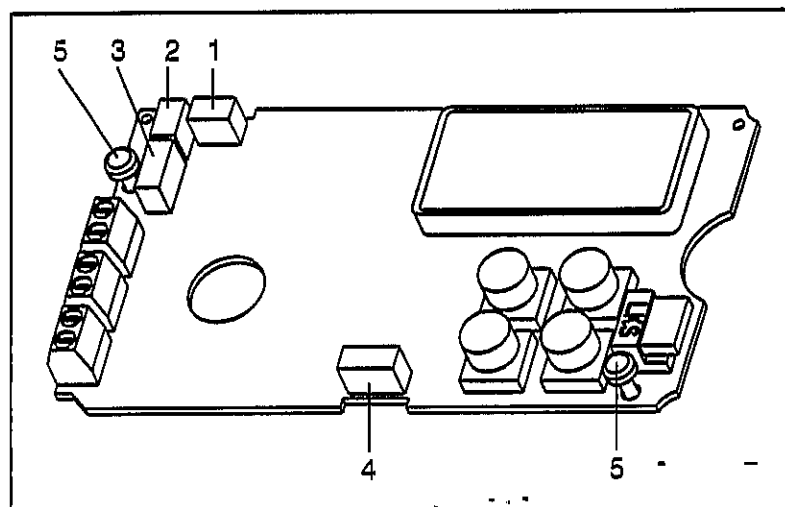

Fig. 38 Motherboard
- Fasten I/P module with both screws (1) in the case; **torque the fasteners to 350 Ncm (31 in-lbs).**
- Connect all connectors on the motherboard (see Fig. 38 on page 97); ensure that all connectors snap in correctly.